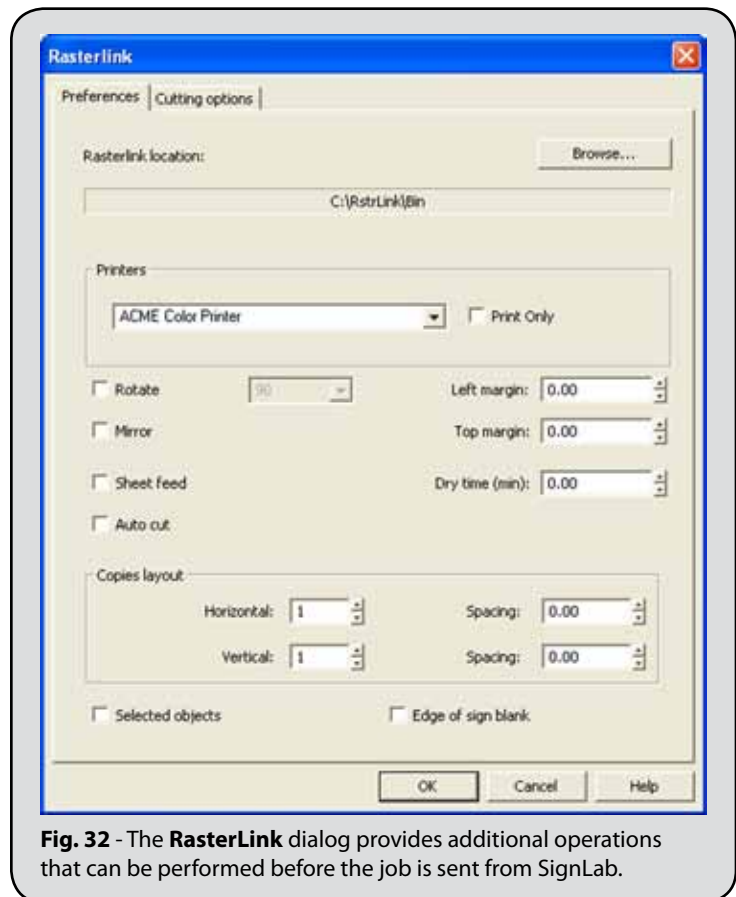

Fig. 32 - The **RasterLink** dialog provides additional operations that can be performed before the job is sent from SignLab.
5. Choose **File** menu >> **Print to RasterLink**. The RasterLink dialog will open to the **Preferences** tab (Fig. 32).